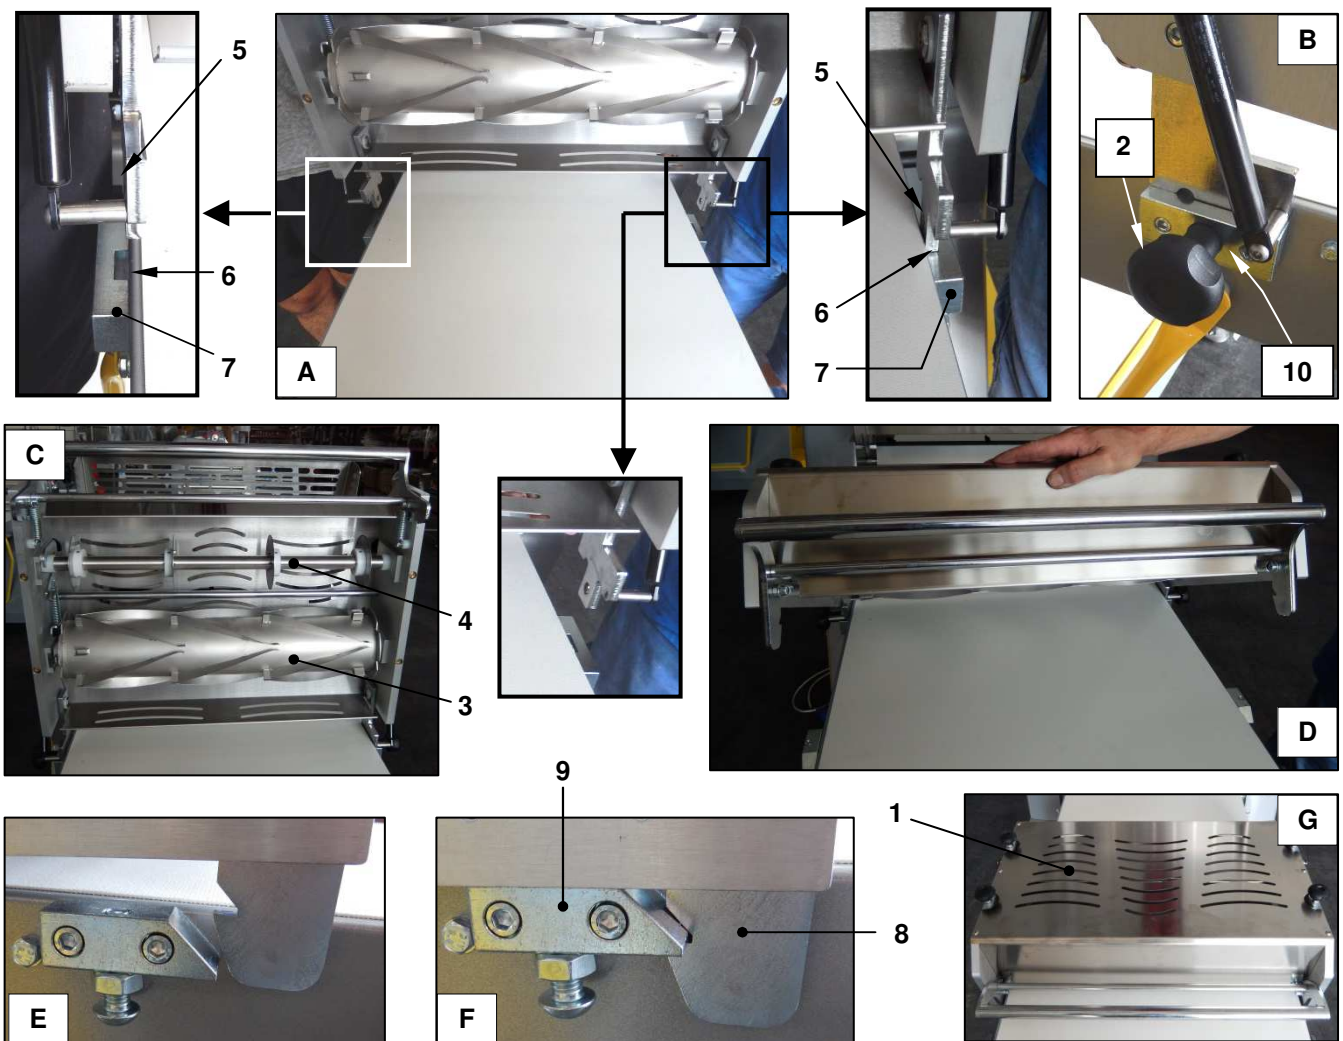

Figure 22 - Installing the cutting unit
With reference to Figure 22, both sides of the benches designed to be used with the cutting unit ref. 1 are fitted with the following devices (photo A - B):
- blocks ref. 7 with threaded knob ref. 2, in which to insert the side plates of the cutting unit,
- positioning plates ref.9 for engaging and holding the cutting unit against the table.
With reference to Figure 22, to install the cutting unit ref. 1 proceed as follows:
- unscrew and completely remove the knobs with threaded studs ref. 2
- even if the weight is not particularly high (max. 24 kg), **the following must be carried out by two people in order to minimize the risk of musculoskeletal injuries** and ergonomic injuries in general. In order to reduce the weight to be lifted as much as possible, remove the cutting rollers ref. 3 and ref. 4 (the weight is reduced to approximately 15 kg). This is particularly important where it is not possible to have the assistance of a second person. Raise the unit ref. 1 and place it like a bridge over the bench as shown in photos A - C. Then insert the plates ref. 5 into the seats ref. 6 in the blocks ref. 7 at the sides of the bench and lower the unit under its own weight as far as it will go (photo C).
- after having placed the studs of the knobs into the through hole ref. 10 in the blocks ref. 7, screw the knobs ref. 2 as far as they will go into the lateral threaded holes of the plates ref. 5 (photo B), but without tightening them excessively.
- when reinstalling the rollers, remember that the cutting roller ref. 3 must be positioned on the side from which the dough arrives, i.e. usually on the side of the thickening rollers (for removing and installing the cutting rollers see section. 3.10.4).
- lower the unit onto the bench, guiding it by hand (photo D). When it stops (photo E), push it firmly downwards until you hear a loud metallic click. This indicates that the hook ref. 8 has engaged with the positioning plate ref. 9 (photo F) and that the unit is secured to the bench, as shown in photo G (make sure that it has been properly engaged on both sides).